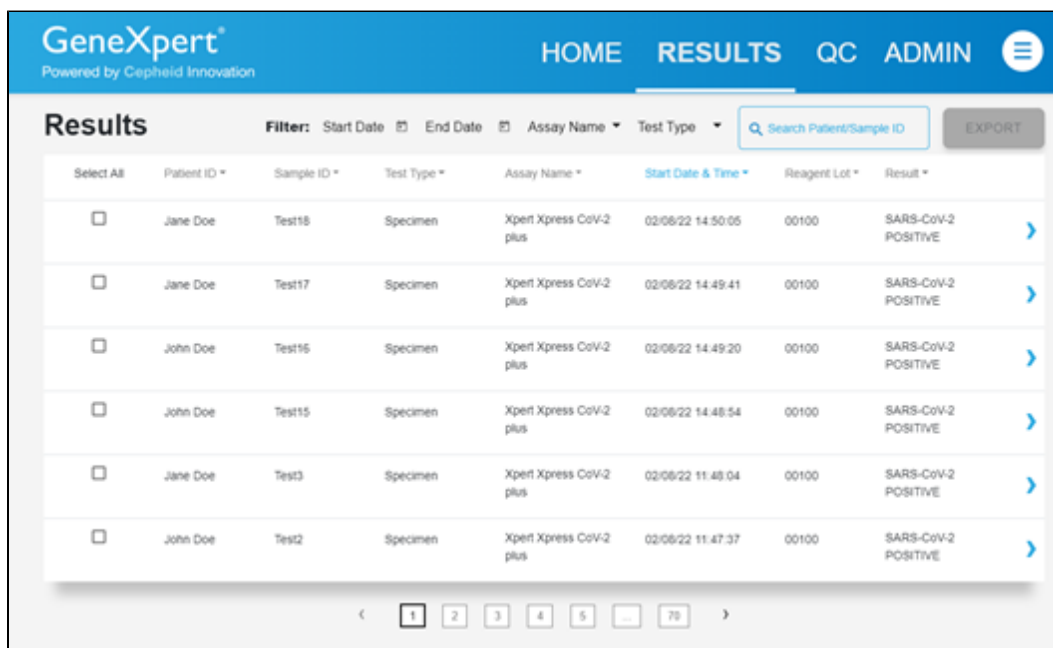
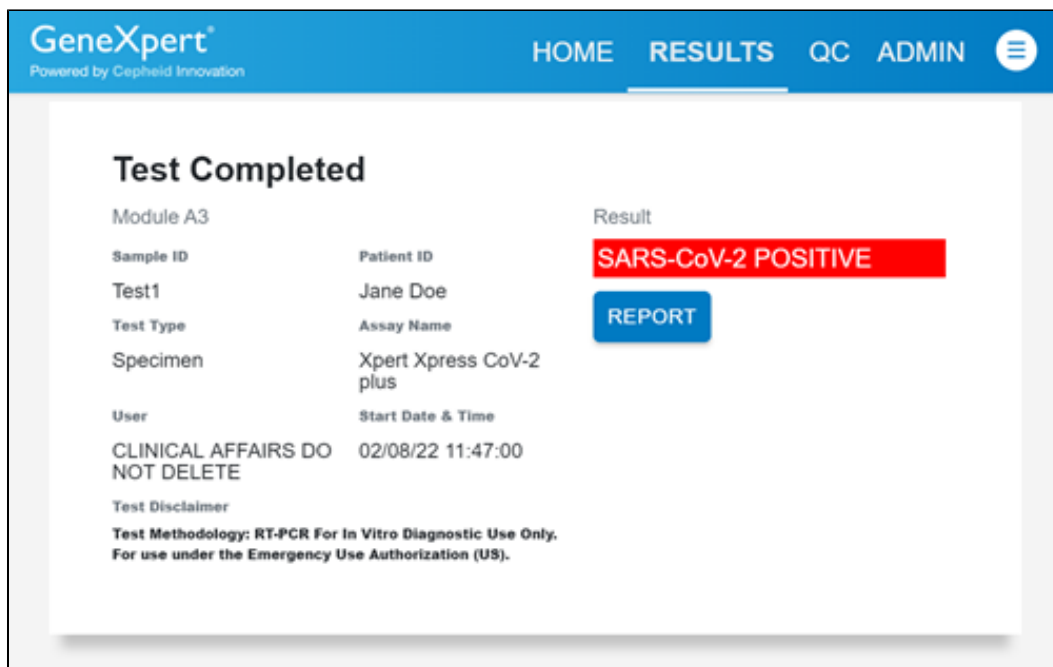

Figure 32. Results Screen
Figure 33. Test Result Screen (Example)
- Touch the **RESULTS** button located on the panel at the top of the screen (see Figure 32). The Results screen appears (see Figure 33). Test results are, by default, in order of the date and time that the test was run. Navigate through the test result pages by touching the numbered buttons or arrows at the bottom of the screen,
2. Touch the desired result to open the Test Result screen (see Figure 33).